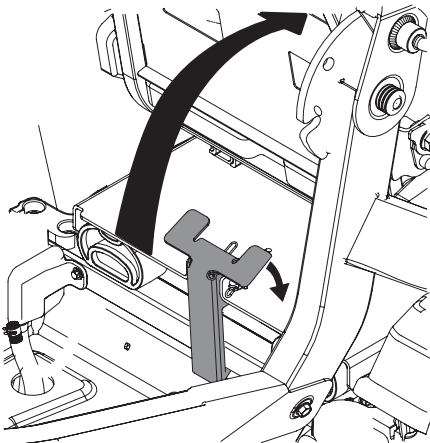

Figure 21
- Rotate the entire seat pan upward (Figure 21).